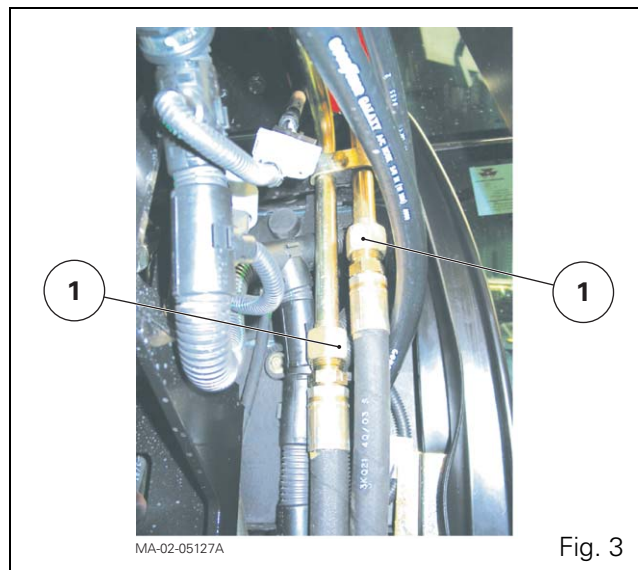

Fig. 3
- The lubrication pipes/hoses (1) located on the cab front firewall (Fig. 3). These pipes/hoses allow for oil flowing between the cooler and the rear axle right-hand hydraulic cover;